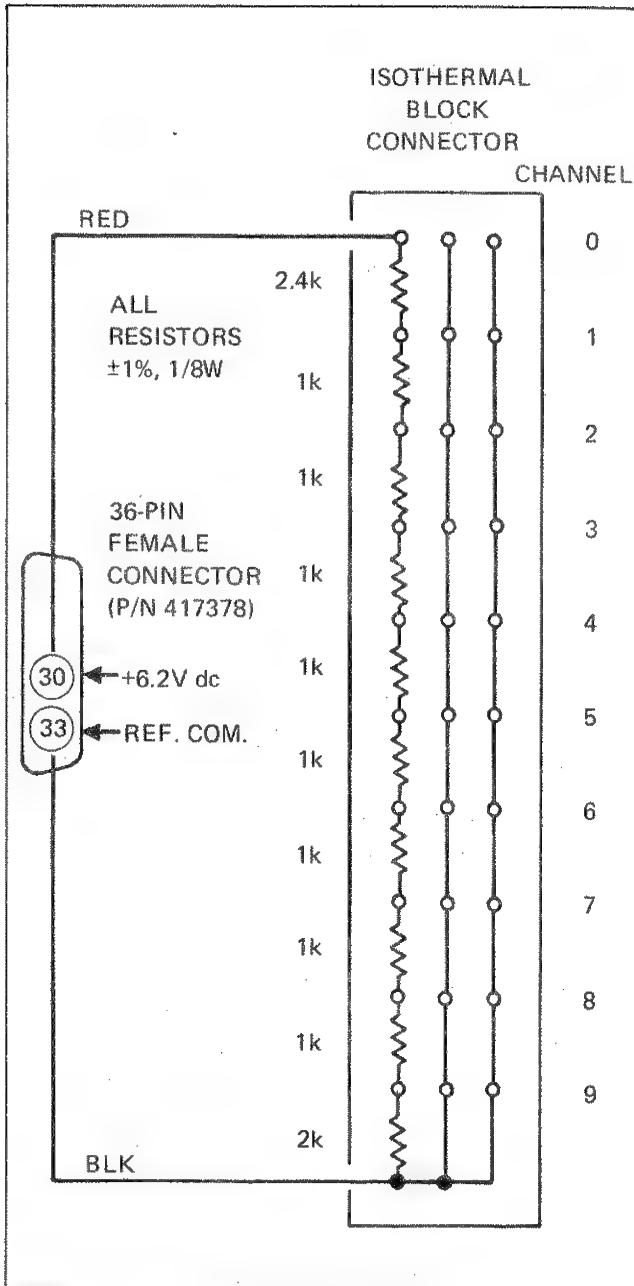

Figure 5-1. Test Cable
- Fabricate a test cable using an isothermal block input connector (2205A-008); two 24-inch lengths of 20-gauge insulated copper wire (red, black); ten 1/4 watt, 1% resistors; and a 36-pin male connector (Fluke Part Number 417378). Assemble the cable as shown in Figure 5-1.